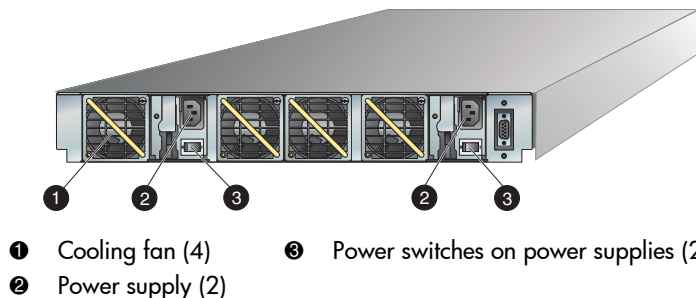

Figure 2: Edge Switch 2/32 (rear view)
Figure 2 shows the rear of the Edge Switch 2/32. The FRUs on the rear panel include two power supplies and four individual cooling fan FRUs. Also shown on the rear panel is an RS-232 maintenance port (not labeled).
- **Power Supply**—A green LED at the upper left corner of each power supply (Figure 2 on page 26) illuminates if the power supply is operational and receiving AC power.
The rear panel provides a 9-pin RS-232 maintenance port (Figure 2 on page 26) that provides a connection for a local terminal or dial-in connection for a remote terminal. Although the port is typically used by authorized maintenance personnel, operations personnel can use the port to configure switch network addresses.